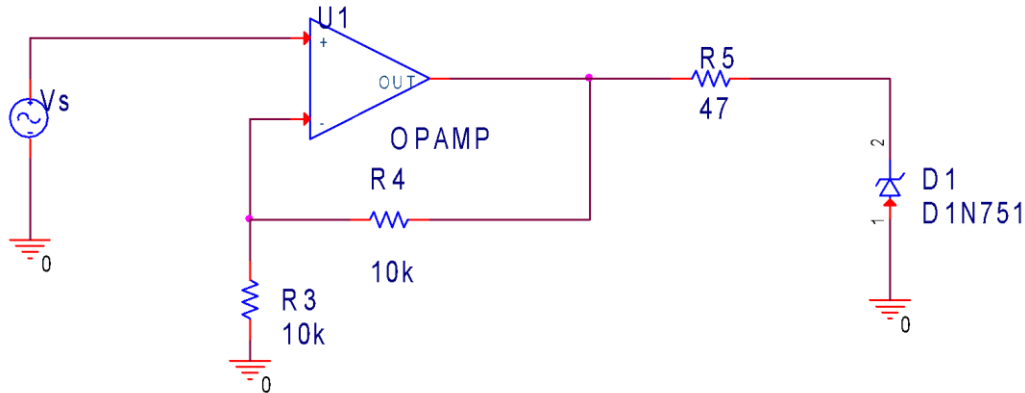

Figure 10: Experimental Zener diode circuit
4. Build the circuit below (Figure 10) using the LF351/353 op-amp. Set the source to a 8 Vpp (4 V amplitude), 100 Hz triangle wave (sawtooth-shaped wave). The non-inverting op-amp is implemented such that we can provide voltage signals to the load circuit in excess of the 5 V limit internal to the Discovery Board/Mobile Studio. Use a +15/–15 V voltage to power the op-amp.